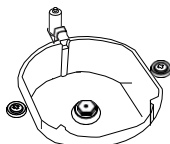
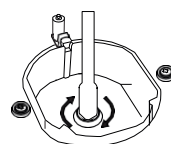

Figure 4
Figure 5
2. Remove the nozzle (figure 4) from the burner with nozzle driver and install a new nozzle (Figure 5).